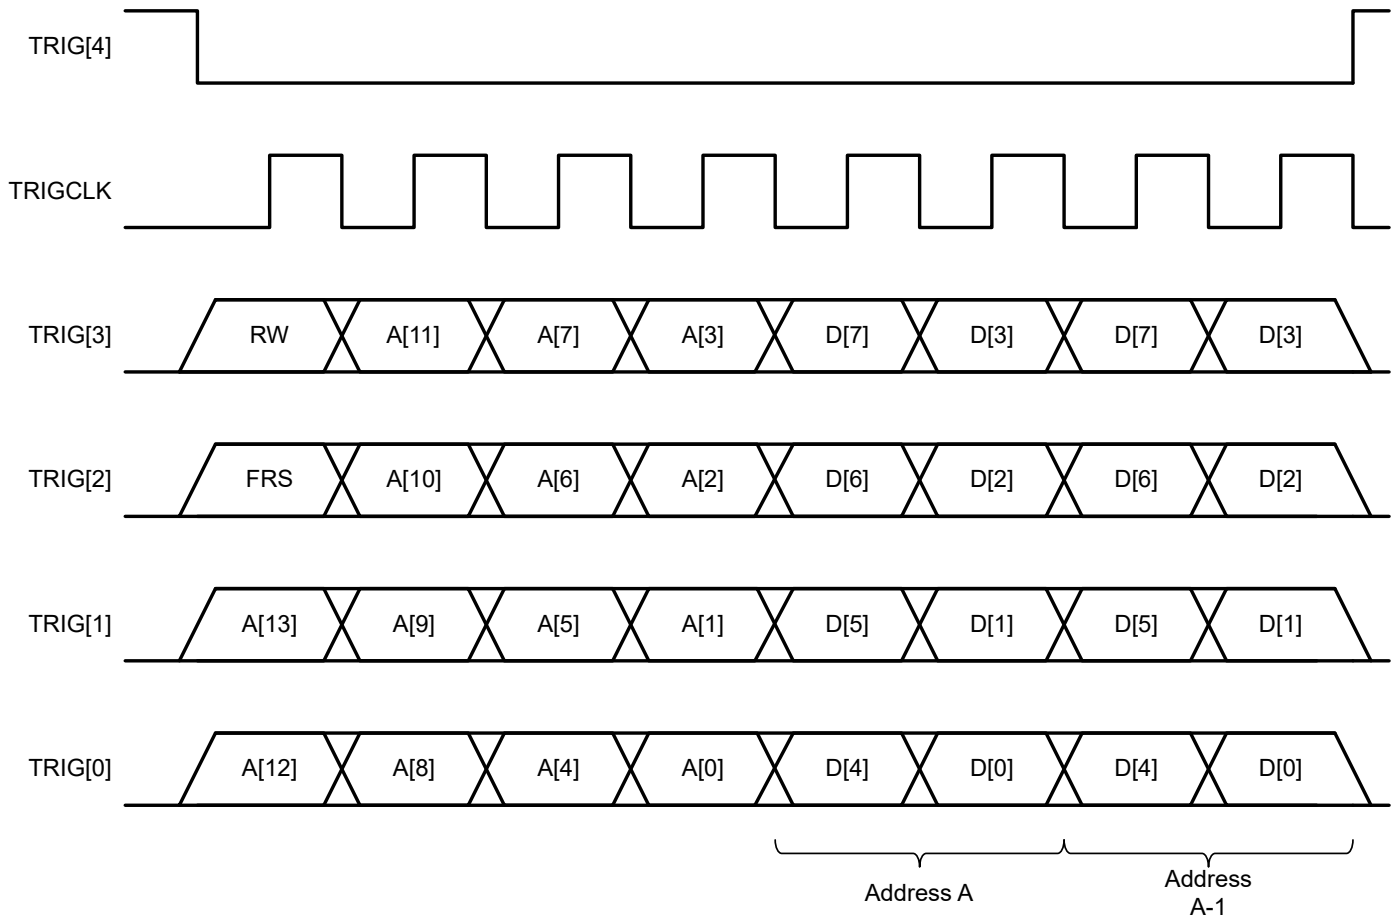

Figure 7-60. FR Interface Timing Diagram
The Fast Reconfiguration (FR) interface provides fast write-only access to configure PFIR coefficients and NCO frequency and phase. The FR interface is similar to the SPI interface, but 4 bits are sent per clock cycle, and the external trigger pins are reused. The FR timing diagram is shown in Figure 7-60. It uses a R/W bit (always set to 0 to indicate a write for this device), a transaction sync bit FRS, and 14-bits of address followed by some number of data bytes. The address is decremented after each data byte (consistent with little-endian). The interface is byte addressable and data is committed after each byte. The FR interface is takes 4-bits (one nibble) per clock. For multi-nibble fields, data is sent most-significant nibble first.